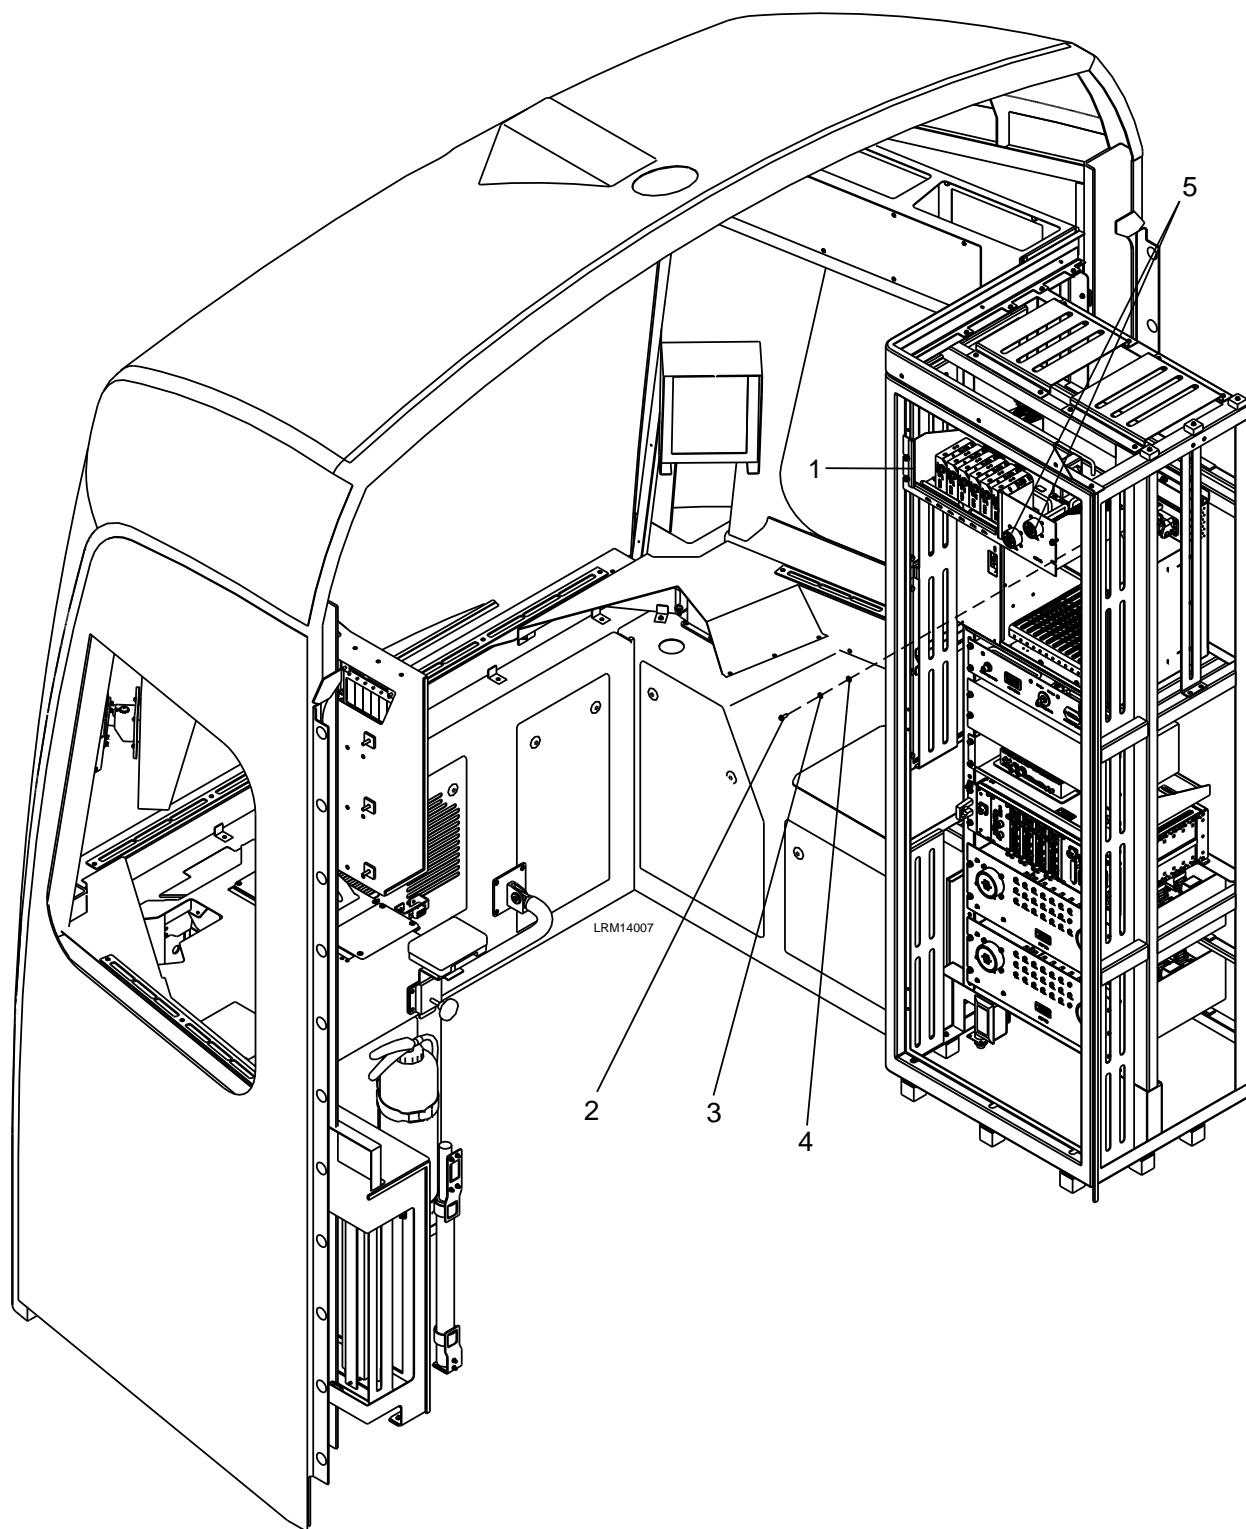

Figure 8-3: Audio Control Panel (ACP1B)
2. Disconnect the electrical connectors (5) to the ACP1B Panel (1). See Figure 8-3.
3. Remove the four M6 x 16 screws (2), M6 lock washers (3), and M6 plain washers (4).
4. Carefully remove the ACP1B Panel (1).